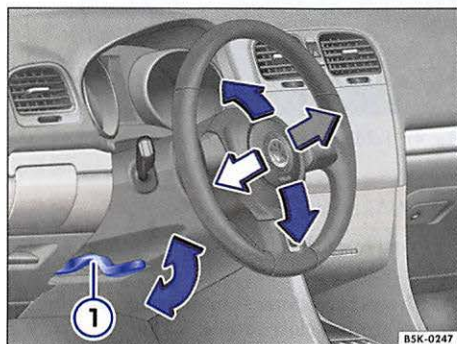

Fig. 39 Manual adjustment for steering wheel position.
- Push down on the lever ⇒ fig. 39 ①.